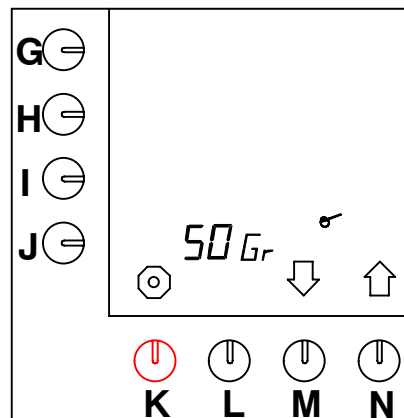

Fig. 48 Setting the coffee calculator
- Press selection key (N.)↑ until fig.48 appears on the display.